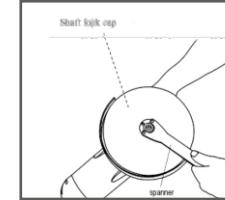

Fig 4
2. To tighten the outer flange, press the shaft lock firmly so that the spindle cannot revolve, then use the lock nut wrench and securely tighten clockwise. (Fig 4)